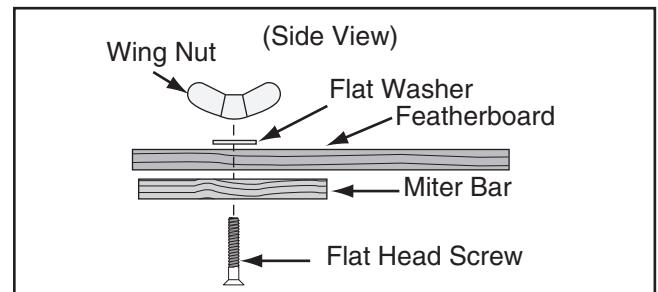

Figure 80. Assembling miter slot featherboard components.
8. Assemble miter bar and featherboard with a $\frac{1}{4}$ "-20 x flat head screw, flat washer, and a wing nut or a star knob (see **Figure 80**). Congratulations! Your featherboard is complete.